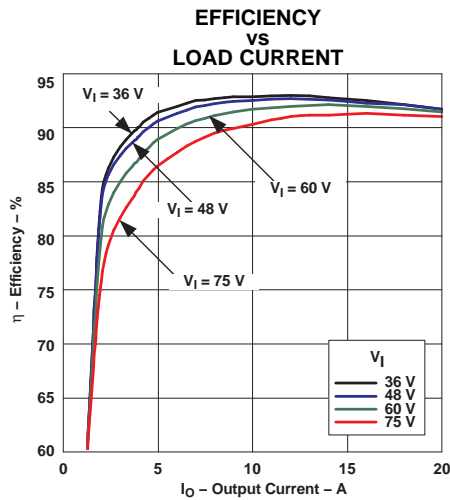
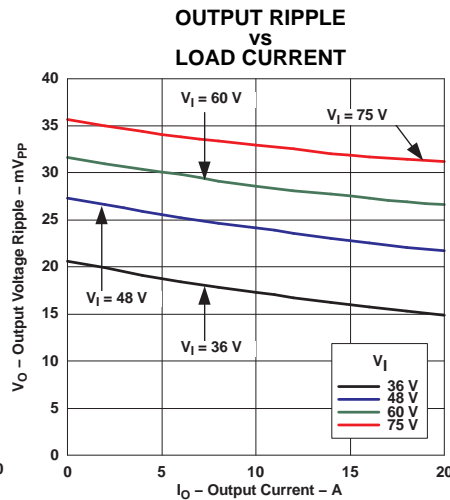
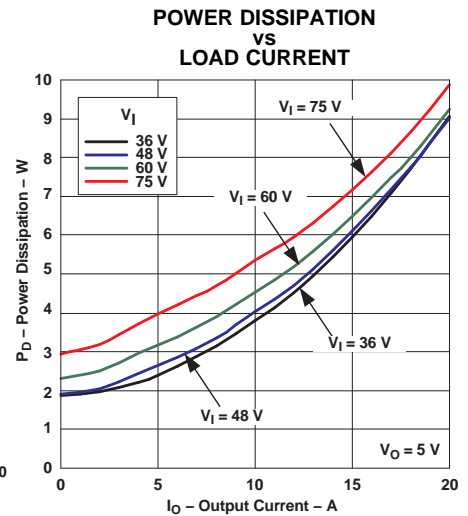

Figure 9.
Figure 10.
Figure 11.
- (1) All data listed in Figure 9, Figure 10, and Figure 11 have been developed from actual products tested at 25°C. This data is considered typical data for the dc-dc converter.